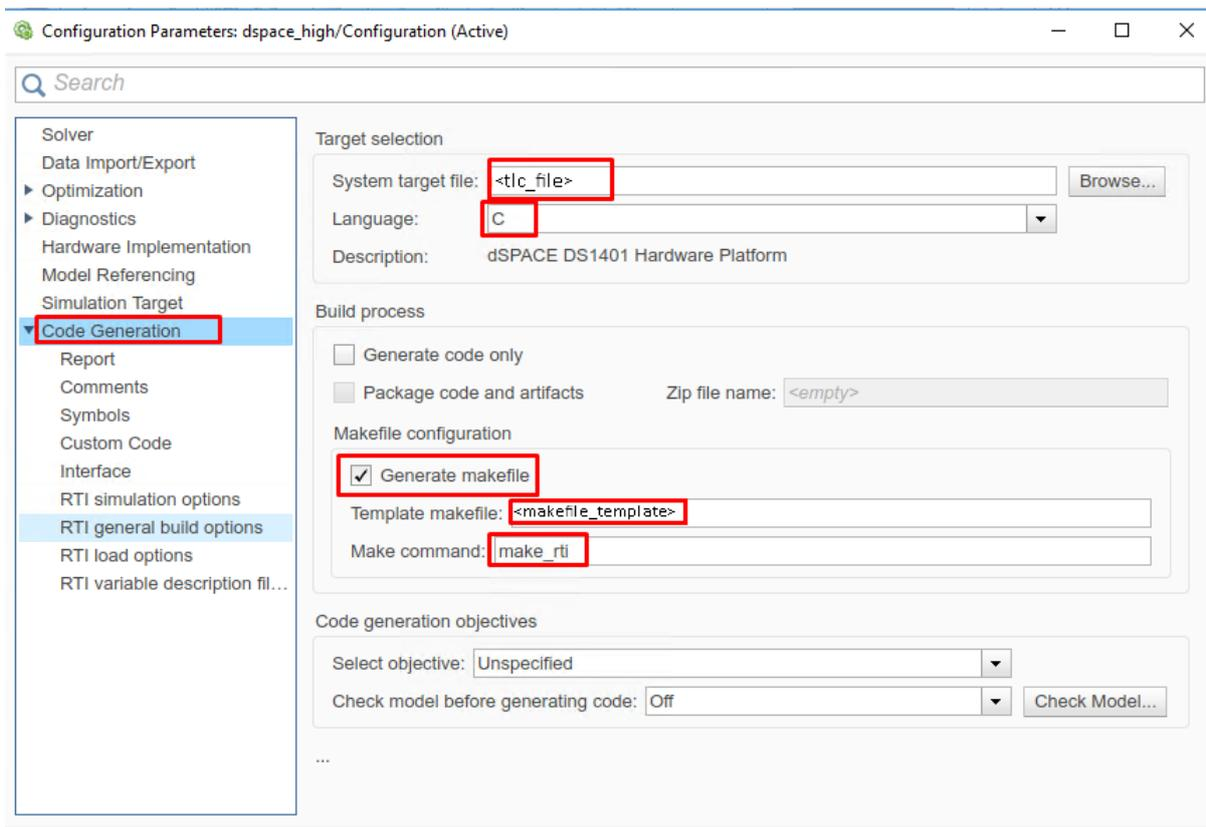

Figure 13.9: Set the Simulink code generation options.
- (Figure 13.9) In the "Code Generation" tab, set the options (for <tlc_file> and <makefile_template> see *Simulink Model HW Target Configuration*):